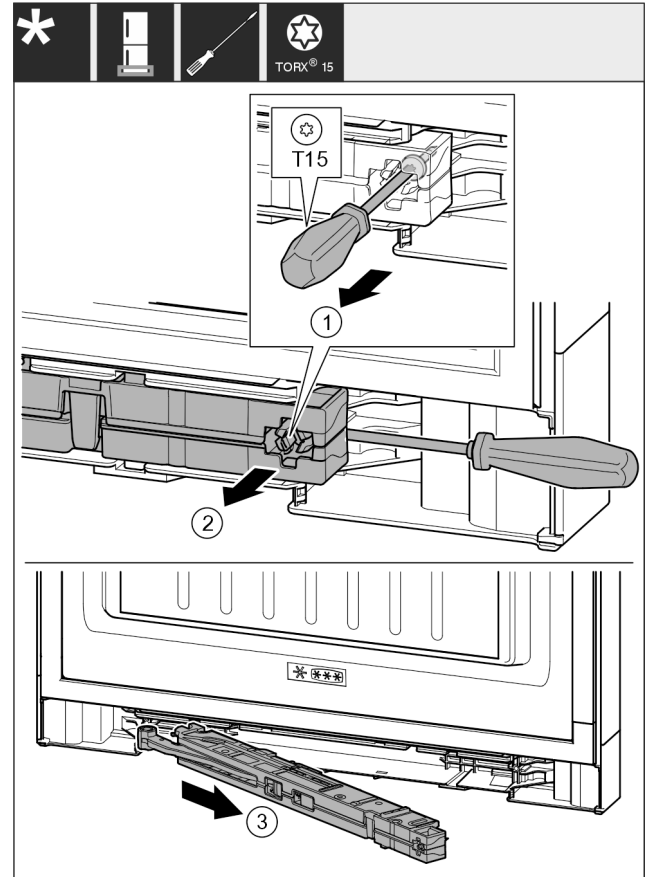

Fig. 15
- ▶ Undo the soft stop mechanism screw with a T15 screwdriver approx. 14 mm (9/16 in). Fig. 15 (1)
- ▶ Insert the screwdriver on the handle side behind the soft stop unit. Turn the unit forward. Fig. 15 (2)
- ▶ Pull out the unit. Fig. 15 (3)